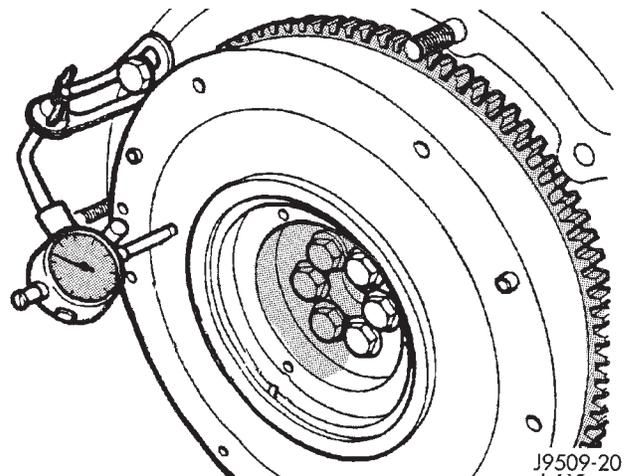

Fig. 58 Measuring Crankshaft End Play
(16) Install 2 flywheel bolts, 180° apart, and tighten bolts to 20 N·m plus 60° (15 ft. lbs.) plus 60°.
(17) Attach dial indicator to engine block.
(18) Move crankshaft toward front of engine and zero indicator.
(19) Move crankshaft toward the rear of engine and record measurement.
(20) Subtract specified crankshaft end play from figure obtained. Crankshaft end play .153 to .304mm (.0060 to .0119 in.).
(21) Select thrust washers which will give correct end play.
(22) Remove tools and flywheel.
(23) Lubricate thrust washer halves and fit them into the rear main bearing carrier.
(24) Ensure that crankshaft end and flywheel mating surfaces are clean and dry. Install "O" ring in flywheel groove.
(25) To verify correct end play, install 2 flywheel bolts 180° apart, and tighten bolts to 20 N·m plus 60° (15 ft. lbs. plus 60°).
(26) Measure crankshaft end play with a dial gauge. Crankshaft end play should not exceed .153 to .304mm (.0060 to .0119 in.) (Fig. 58).
(27) Mount flywheel on crankshaft. Lightly oil and install NEW bolts, tightening to 20 N·m in diametrically opposite pairs. Check that all bolts are at 20 N·m. Tighten each bolt a further 60° +0-5°, tightening bolts in diametral pairs. Check that all bolts are tightened to 130 N·m.